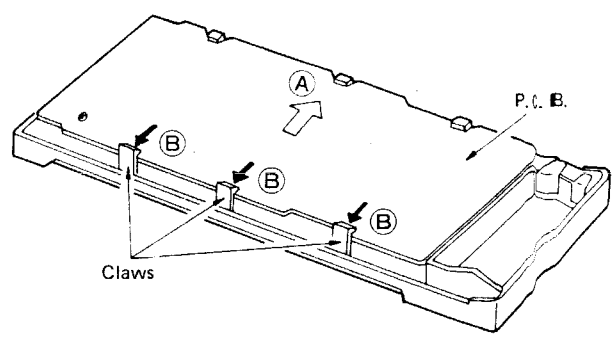

Fig. 21
5. Pressing the whole body of P.C.B. in the direction of arrow (A), push the 3 claws on the opposite side in the direction of arrow (B) to remove the P.C.B. from the top cover. [Fig. 21]
Caution: Be sure to remove the P.C.B. with the top cover positioned as in Fig. 21. If the top cover is up, the button will be removed.